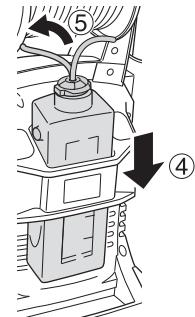

Fig. 14
- ① Remove the detergent bottle's water feed pipe from the washer.
- ② Push the detergent bottle from the bottom and withdraw it from the top.
- ③ Wash the detergent bottle, water feed pipe and filter with water from the faucet.
- ④ When reattaching the bottle, hold it as shown in **Fig. 14**, and then push the protrusion on the bottom in as far as it will go.
- ⑤ Insert the water feed pipe into the washer and tighten the cap while making sure dust or dirt does not enter.